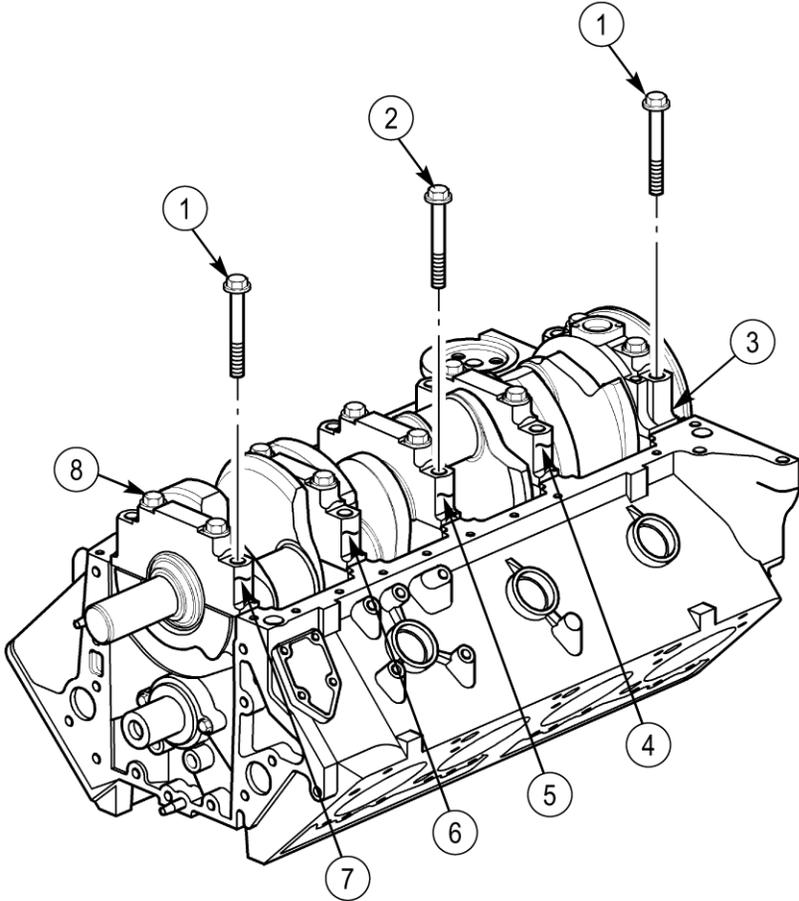

Figure 4
9. Apply OE/HDO to threads of four 12 mm capscrews (1) and install at outer positions on bearing cap one (7) and five (3) as shown in figure 4.
10. Apply OE/HDO to threads of six 10 mm capscrews (2) and install at outer positions on bearing caps two (6), three (5), and four (4) as shown in figure 4.
11. Retighten ten 12 mm capscrews (8) at inner positions on bearing caps one (7), two (6), three (5), four (4), and five (3) to 55 lb-ft (75 N•m) as shown in figure 4.
12. Tighten ten 12 mm capscrews (8) at inner positions an additional 90° as shown in figure 4.
13. Tighten four 12 mm capscrews (1) at outer positions on bearing caps one (7) and five (3) to 48 lb-ft (65 N•m) as shown in figure 4.
14. Retighten four 12 mm capscrews (1) at outer positions on bearing caps one (7) and five (3) to 48 lb-ft (65 N•m) as shown in figure 4.
15. Tighten four 12 mm capscrews (1) at outer positions on bearing caps one (7) and five (3) an additional 90° as shown in figure 4.
16. Tighten six 10 mm capscrews (2) at outer positions on bearing caps two (6), three (5), and four (4) to 30 lb-ft (40 N•m) as shown in figure 4.